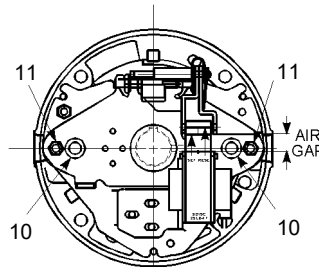

Figure 6
Turn both adjustment nuts (11), Figure 6, equal amounts counterclockwise to decrease torque. See Table A for torque reduction permissible amounts.